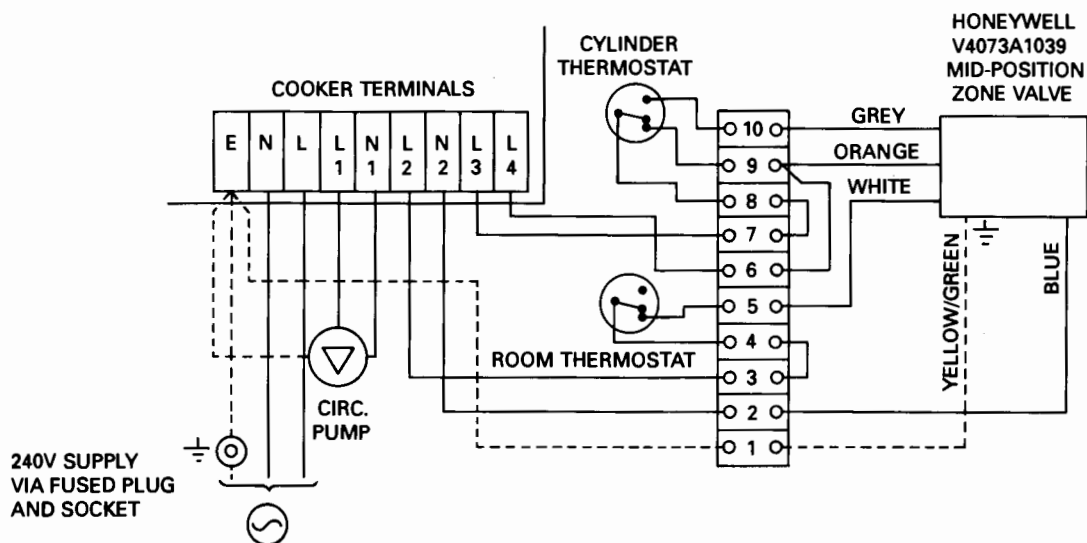

FIG. 5A ALTERNATIVE METHOD TO GIVE CONTINUOUS TEMPERATURE CONTROL
5. If it is intended that the valves should control the boiler burner, then remove loop between L3 and L4 and wire as fig. 5A.